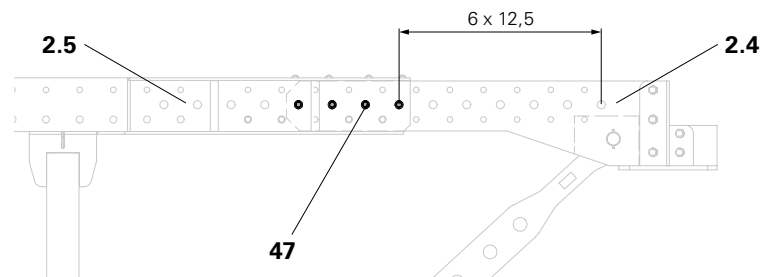

Fig. A1.11
- ⇒ The four fitting pins (47) must be mounted in the four outer holes of the telescopic arm guide (2.5).
- ⇒ Also when fully extended, all four fitting pins (47) must be securely mounted.
- ⇒ The telescopic arm (2.4) must always be fixed with all four fitting pins (47).
- (Fig. A1.11)